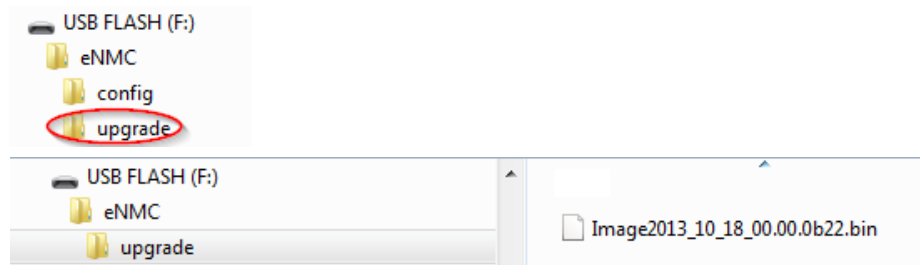

Figure 59. Root of Flash Disk
1. Connect a USB flash disk to your computer and put the Image*.bin file on the flash disk in the eNMC/upgrade/ location.(see Figure 59).